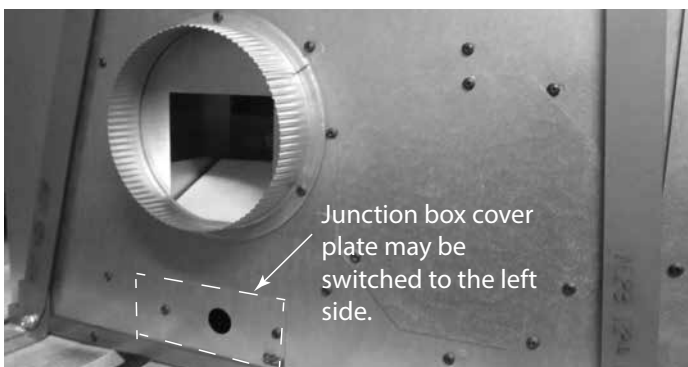
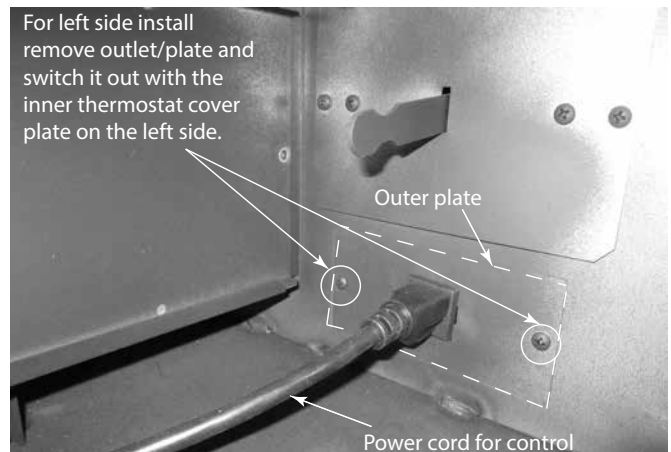

Figure 4.1 Junction Box Cover Plate (Right side shown)
Figure 4.4 Junction Box Shown on Right Side
- Remove junction box cover plate on the bottom right side of the fireplace to access the outlet wires. See Figure 4.1 & 4.2. NOTE: The power may enter from either side by switching the cover plates on the outer shell and switching the outlet plate in the bottom access area to the other side. See Figure 4.4.